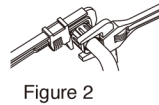

Figure 2
- As shown in Fig. 2, secure the hexagonal part of the nipple ① with another " monkey (motor) wrench, " and tighten the hexagonal cap nut ② completely. Tightening the nipple without securing it may cause the nipple to turn at the same time and break the thread for the piping.